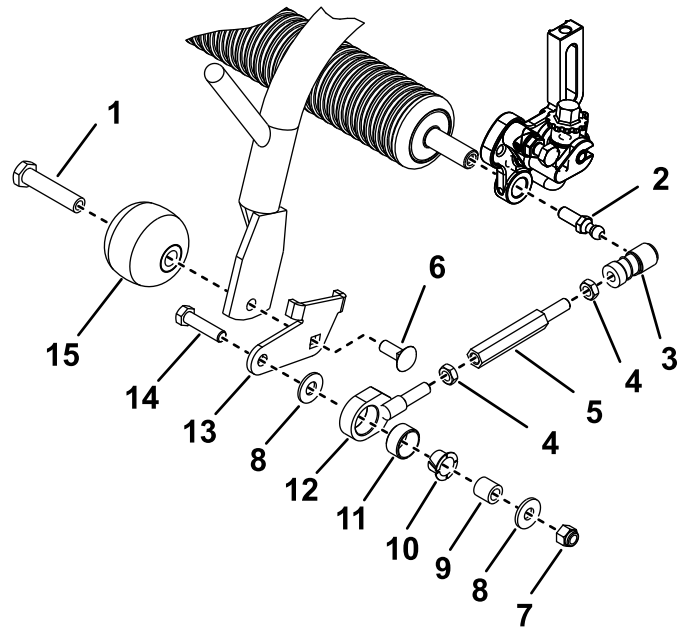

Figure 2
4. Thread the previously removed jam nut onto each of the new longer pull-arm extensions and onto the existing pull-link and bushing assemblies (Figure 2)
5. Assemble the new longer pull-arm extensions to the existing pull-link assemblies and ball-joint receiver assemblies (Figure 2). Do not tighten the jam nuts at this time.
6. Mount the appropriate link bracket (left or right) and a previously removed anti-scalp roller to the end of each front carrier frame with a new carriage bolt and the previously removed roller shaft. Position the brackets as shown in Figure 2.
7. Mount a pull-link assembly to the outside of each link bracket with a bolt (3/8 x 1-1/2 inches), flat washer, bushing, the previously removed spacer and flat washer, and a new locknut (Figure 2).
8. Slide back the sleeve on the ball-joint receivers and install the receivers onto the ball studs (Figure 2).